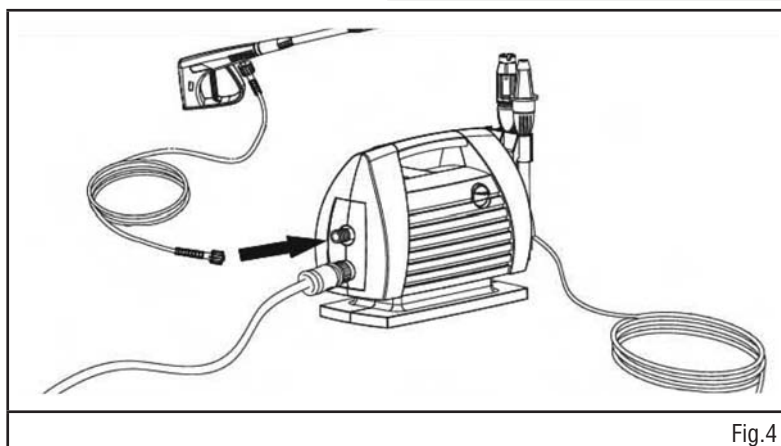

Fig.4
4. Attach the high-pressure hose (#4) to the water outlet. Twist tightly to avoid leakage. (Fig. 4)